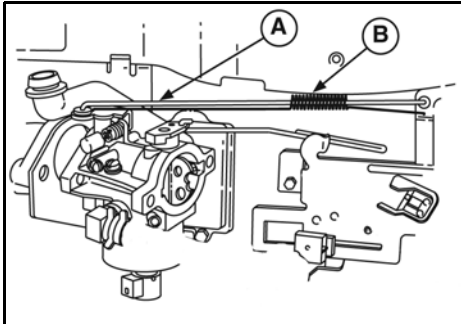

Figure 43
5. Carefully rotate carburetor to disconnect throttle (A, Figure 43) and spring (B) and the choke link during removal.